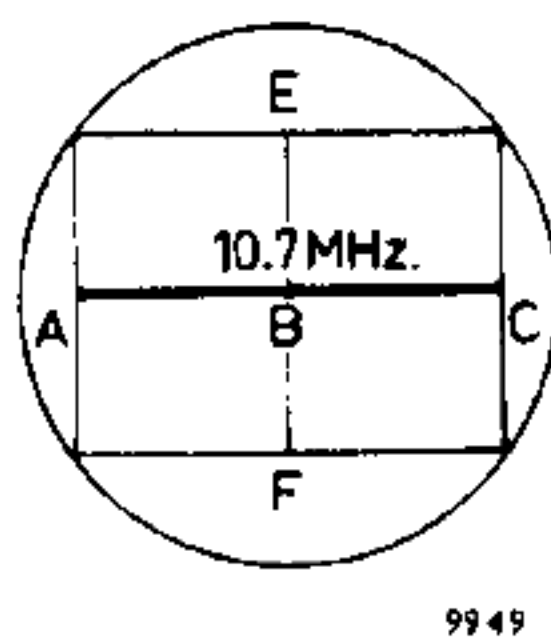

Fig. 20. Frequency scale
3. Adjust the generator to 10.7 Mc/s (frequency range 10 – 11.5 Mc/s). Set the F.M. switch to position "INT". Adjust the controls of the oscilloscope for horizontal and vertical shift and horizontal amplification in such a way that the line on the screen is symmetrical with respect to the vertical centre axis of the square (so in Fig. 20 AB = BC). Point B on the screen will now represent a frequency of 10.7 Mc/s. **During adjustment, this setting must not be changed!**